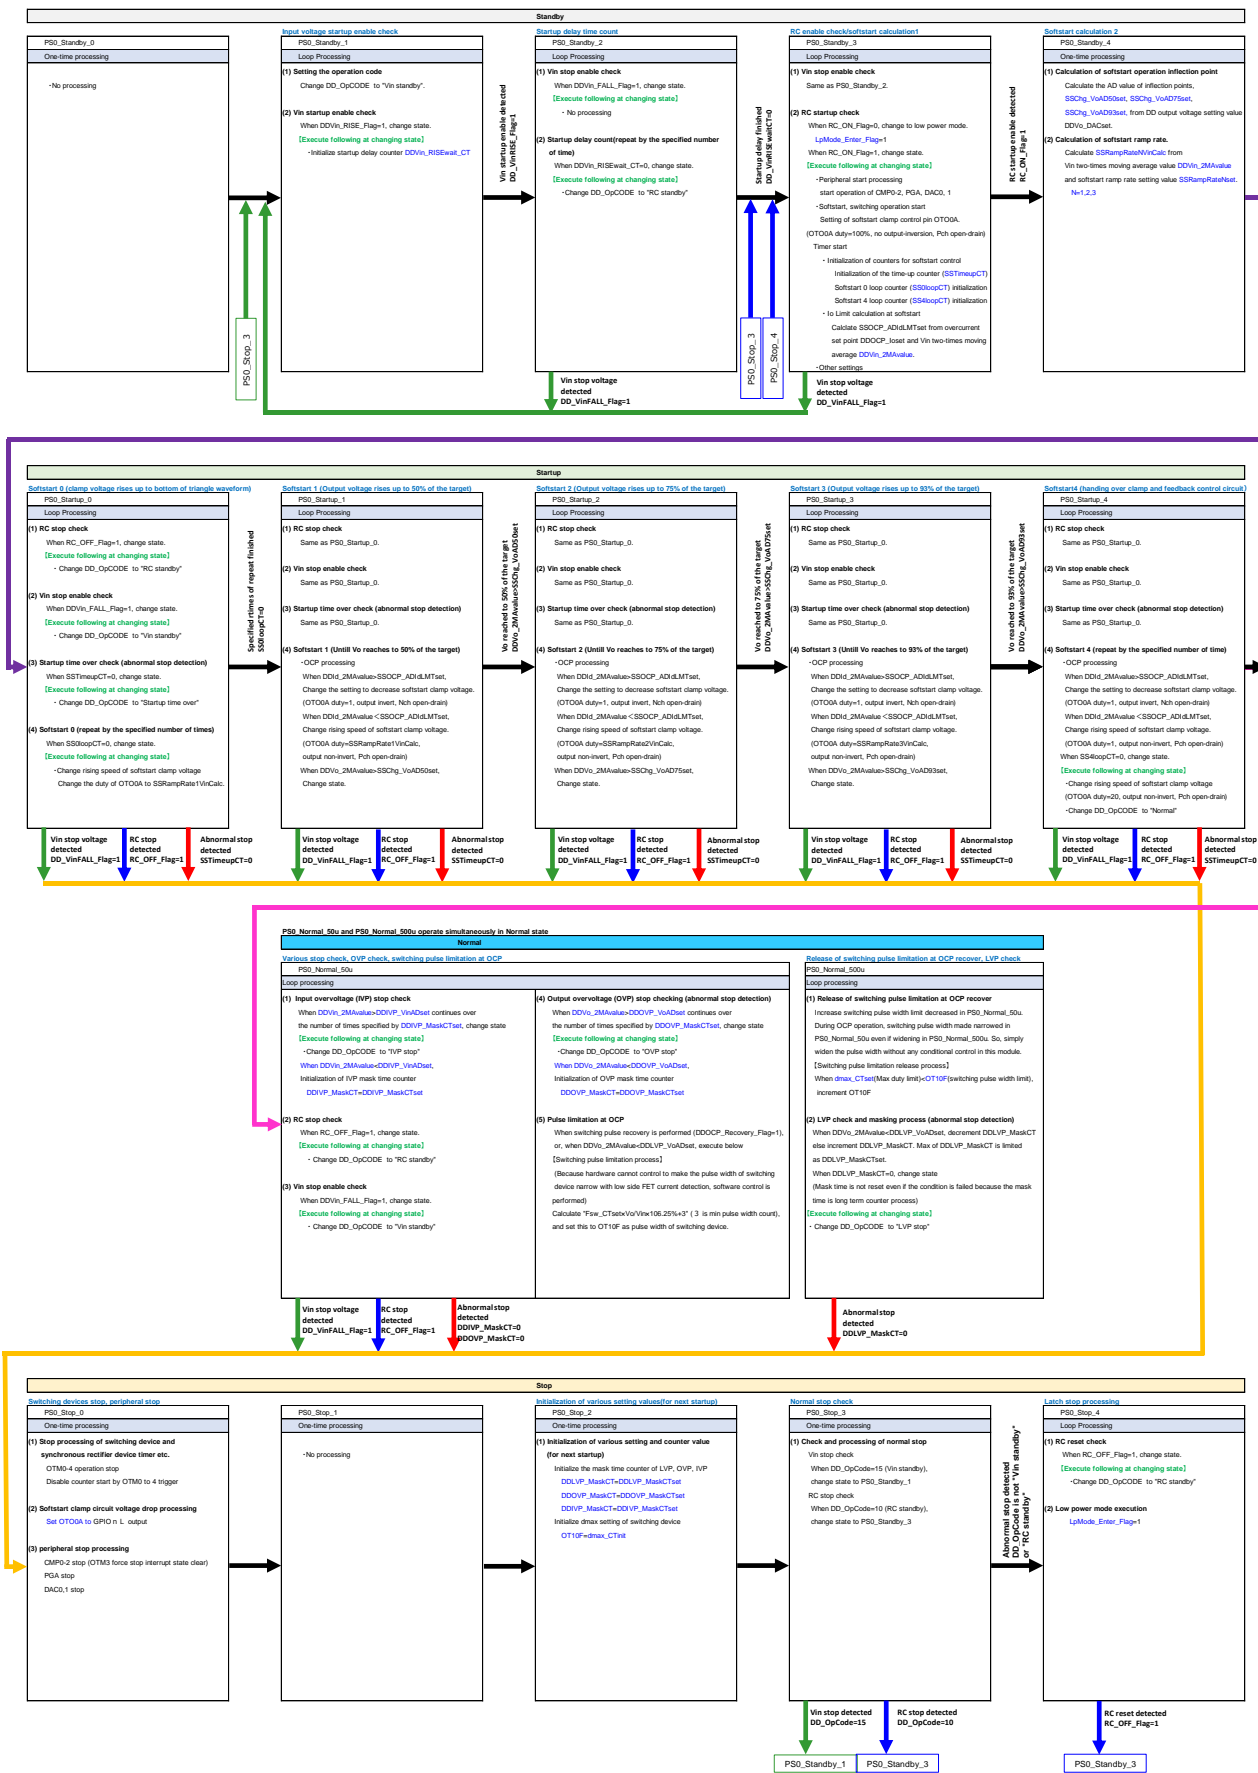

Figure 6-2. LogiCoA001-EVK-001 state transition diagram
Figure 6-2 shows the state transition diagram of LogiCoA001-EVK-001. As described in the section 6.1 “state transition control”, the operation state is divided into ① standby, ② start, ③ normal, and ④ stop. The top stage of Figure 6-2 is the ① standby, the second stage from the top is the ② start, the third stage is the ③ steady, and the bottom stage is the ④ stop. As shown in table 6-1, the standby, startup, and stop states have five state transition control modules, and the normal state has two modules, and one of the modules is executed in a cycle of 50μs. However, only for normal state operation, a module that is executed in a 50μs cycle and a module that is executed in a 500μs cycle operate in parallel. Each module judges and controls the transition to the next state or stagnation in the same state according to state variables and state flags such as input voltage, output voltage, and internal counter of the program dynamically acquired as described in the figure. State variables and state flags are listed in Section 6.3 "State Variables and State Flags".